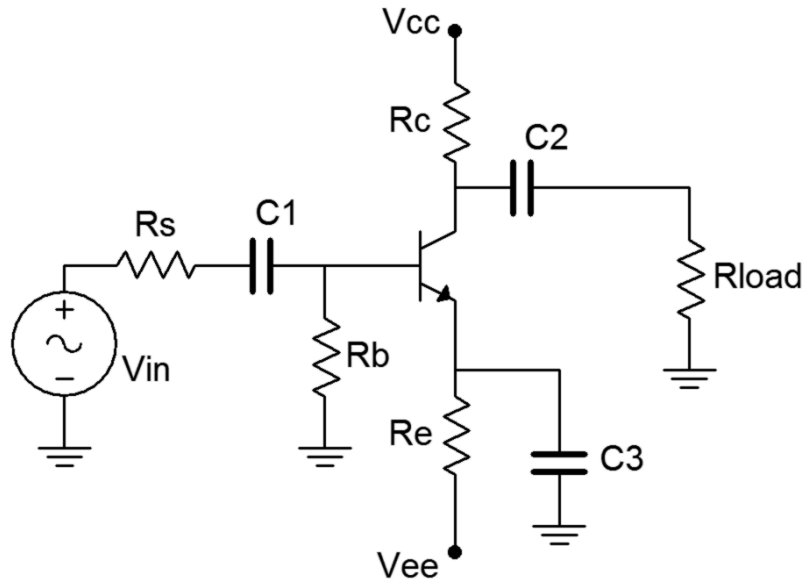

Figure 1
1. Consider the circuit of Figure 1 using $V_{cc} = 15$ volts, $V_{ee} = -12$ volts, $R_s = 10$ k Ω , $R_b = 33$ k Ω , $R_e = 22$ k Ω , $R_c = 15$ k Ω , $R_{load} = 20$ k Ω , $C_1 = C_2 = 10$ μ F and $C_3 = 470$ μ F. Using the approximation of a negligible base voltage, determine the DC voltages at the base, emitter, and collector along with the collector current, and record these in Table 1.
2. Build the circuit of Figure 1 using $V_{cc} = 15$ volts, $V_{ee} = -12$ volts, $R_s = 10$ k Ω , $R_b = 33$ k Ω , $R_e = 22$ k Ω , $R_c = 15$ k Ω , $R_{load} = 20$ k Ω , $C_1 = C_2 = 10$ μ F and $C_3 = 470$ μ F. Make sure that the AC source is turned off or disconnected. Measure the DC voltages at the base, emitter, and collector along with the collector current, and record these in Table 1. Note, you may wish to use a transistor curve tracer or beta checker to get approximate values of beta for each of the three transistors to be used.